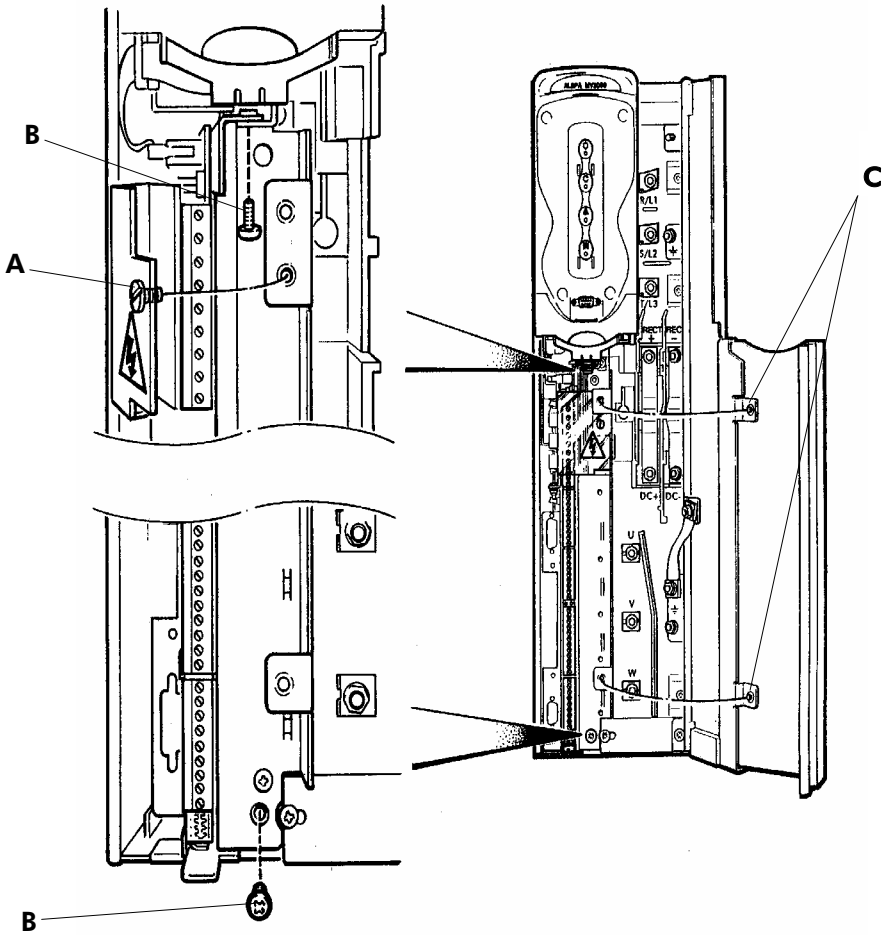

Figure 3-1 Drive module – access and release the CDC cassette
2. Refer to Figure 3-1 and fully open the drive doors as follows:
3. Release the screw (A) securing the plastic terminal shroud. Remove and retain the two screws and washers (B) securing the CDC cassette to the drive chassis.